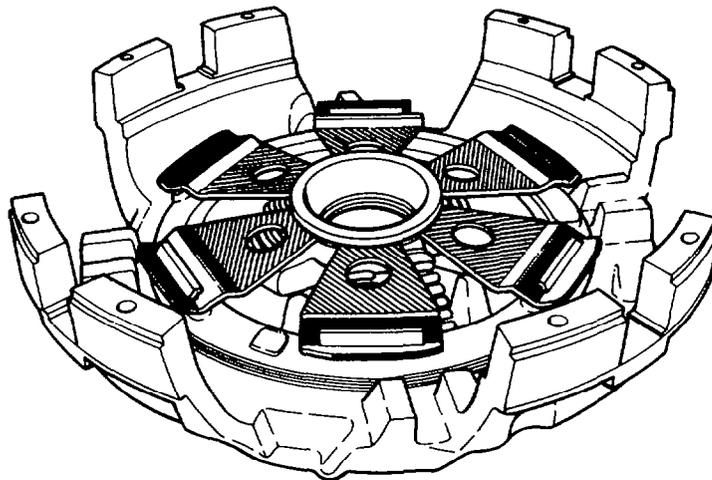

Fig. 161 — Adjusting Ring and Lever Assembly
- e. Turn the adjusting ring and lever assembly counter-clockwise until free of the housing, (see fig. 161).